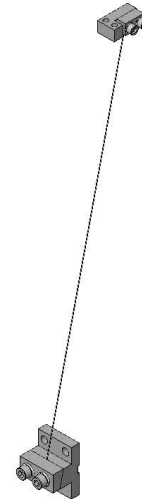

Fig 18: Intermediate Wire Assembly
18. Loosen the #2-56 X 0.375 and #4-40 X 0.375 SHCS holding the clamps to the Wire Jig (NOT the ones holding the clamps together) Loosen the SHCS in the Wire Start Posts and discard the leftover Steel Music Wire. The completed Intermediate Wire Assembly is shown in Figure 18.